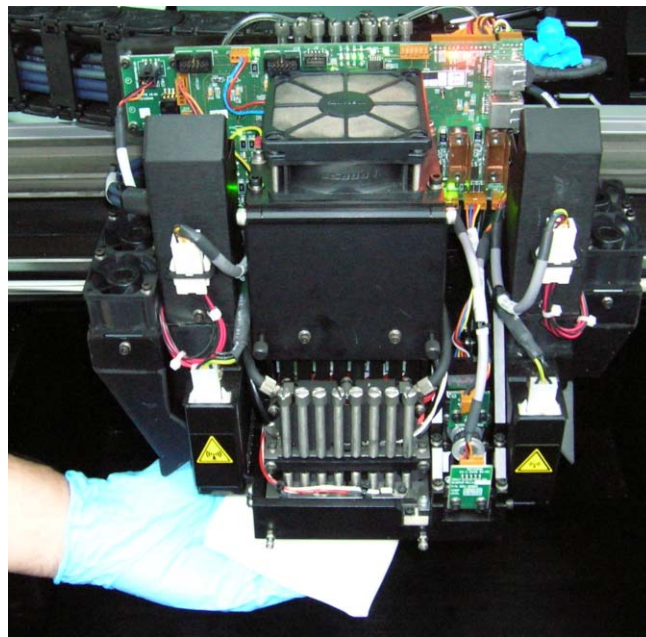

Figure 7-21: Cleaning the heads
9. Clean the orifice plates, with a back-and-forth motion (see figure 7-21). Use the mirror to make sure that you have removed all of the residue material.